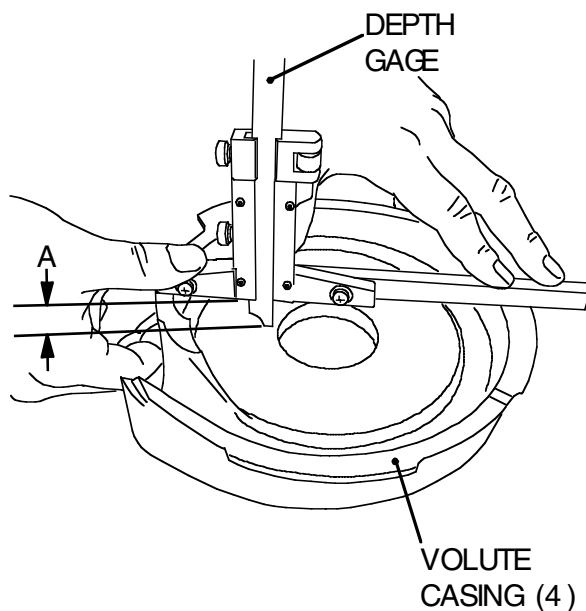

Figure 4-6: Measuring Volute Casing
- (3) Clean bore in casing cover to remove all traces of sealant residue.
- (4) Take the measurements needed for calculating the thickness of shim (31). The shim is sized to provide clearance between the casing cover (2) and impeller (3).
- (a) Refer to Figures 4-6. Measure and record dimension A.